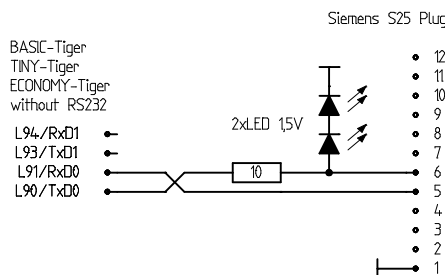

Fig. 5 Circuit for Tiger without RS232 directly to the S25-plug
- If you want to use a Tiger without built in RS232-level converter (the cheapest solution!), you can also spare yourself the expensive data cable with its internal electronics. You put the TTL-levels of the SER0 directly on the mobile phone, but have to make sure that the outgoing signal is restricted to ca. 3 V (Figure 5). The problem with this solution is simply the plug on the side of the mobile phone. It costs quite a lot and you must carry out filigree solder work. If you are lucky you can purchase such a plug in an accessory shop. Another solution is to remove a plug from no longer needed accessory parts – the simple headset with earphones and microphone for example includes a fully equipped plug for soldering and is usually even cheaper than a simple plug.